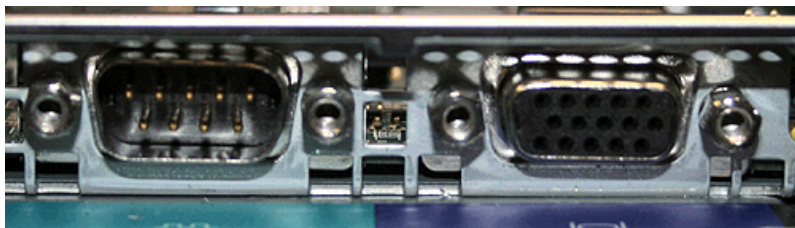

Figure 295. Serial and video ports on the SAN Volume Controller 2145-8G4
3. Replace the four stand-off screws from beside the I/O ports at the rear of the server. Figure 295 shows the location of the stand-off screws.